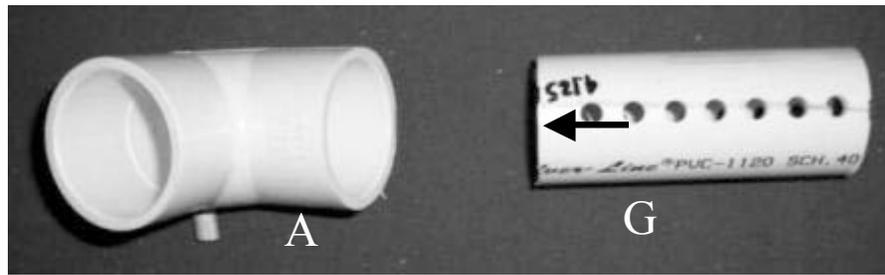

FIGURE 13 – Step 9 – Upper Rear Wheelchair Frame.
**Step 9.** Coat the inner surface of an opening of Part A with PVC glue and insert Part G into this opening. Align the holes horizontally at the midpoint of the pipe (Figure 13). Use a mallet to seat the connection.